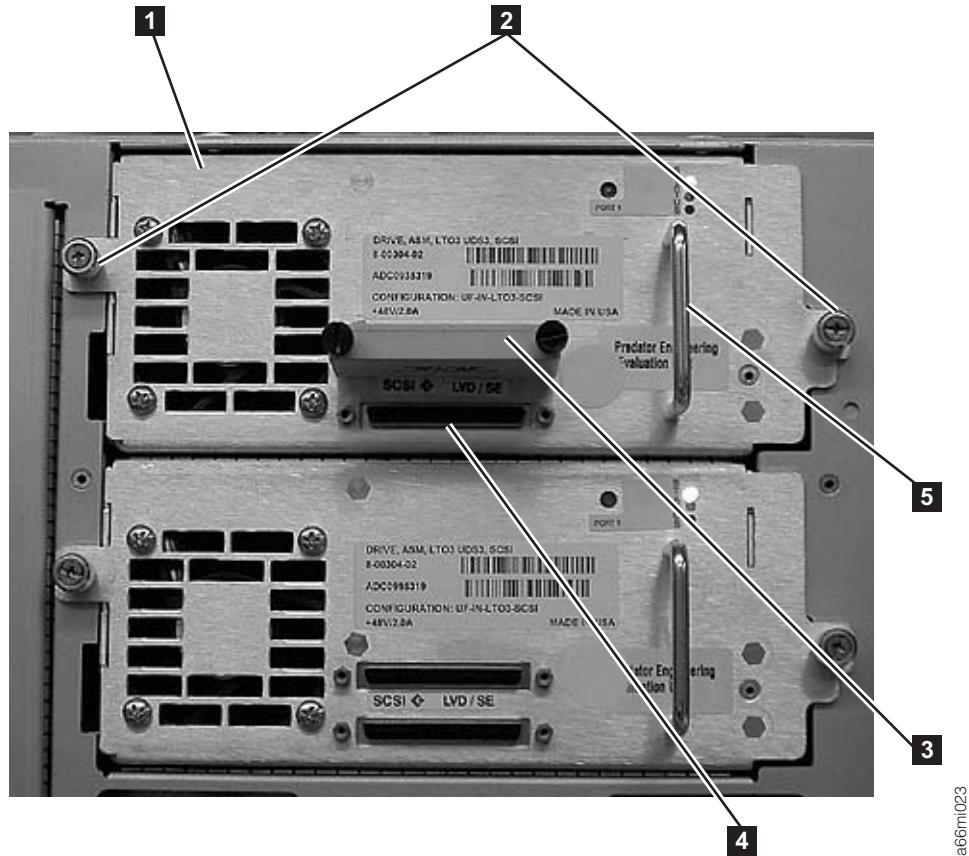

Figure 3-5. SCSI Drive Sled (detail)
1. Loosen the two thumb screws (**2** in Figure 3-5) that hold the drive sled in place by turning them counterclockwise.
2. To remove the drive sled, grasp the handle (**5** in Figure 3-5) and slowly pull it toward you, while supporting the drive sled from underneath.